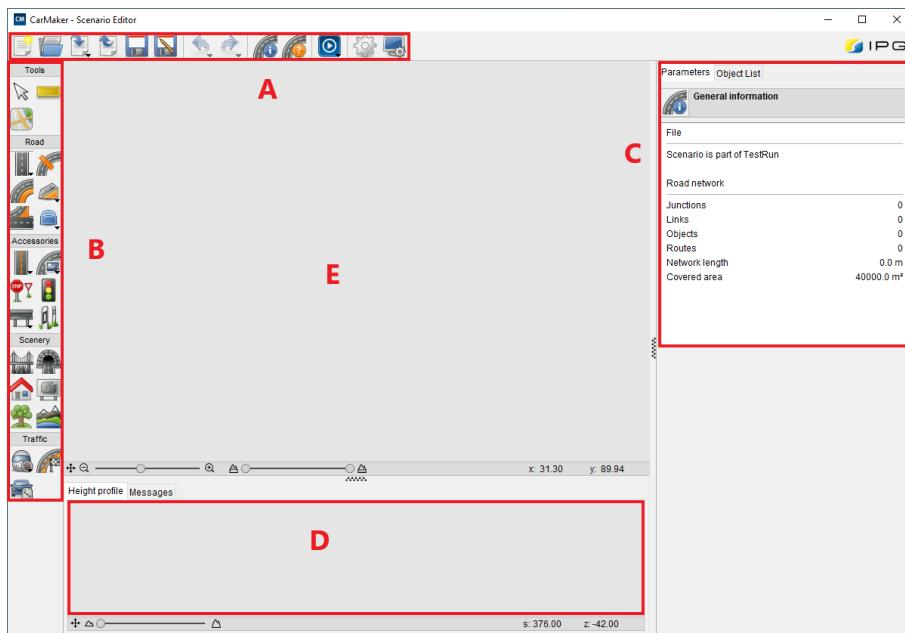

Figure 3.6: Scenario Editor GUI
- Use the cursor to navigate into the design area of the editor (the middle window, see Figure 3.6 - section E) and click once to define the starting point of the straight segment.